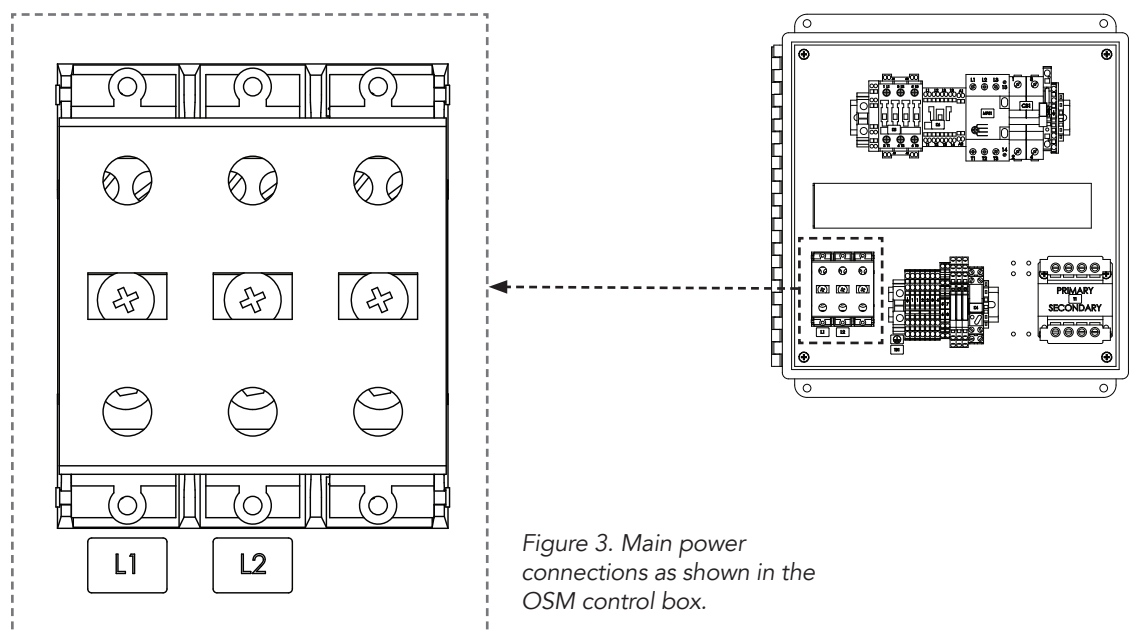

Figure 3. Main power connections as shown in the OSM control box.
- For **single-phase applications**, use the terminal blocks labeled **L1** and **L2** or **L** and **N**. See Fig. 3.